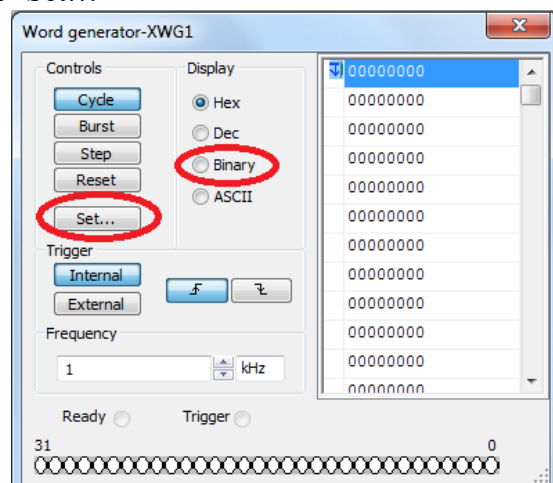

Figure 2. Word generator set dialogue box.
- As shown in Figure 2, double-click it to set the parameters. Choose “Binary”, then click on “Set...”